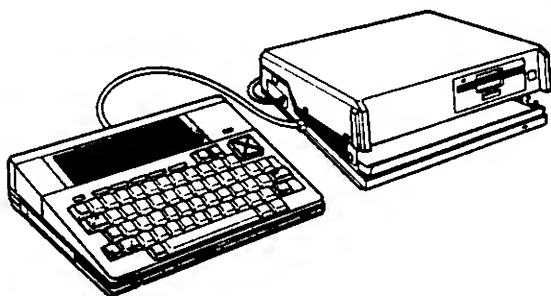

Figure 740-7 Locating Floppy Disk Unit PC-8231A
3. Locate the PC-8300 and the floppy disk unit (PC-8231A) near each other. See Figure 740-7.
5. Connect the end with the ferrite toroid to the floppy disk unit PC-8231A. See Figure 740-7.